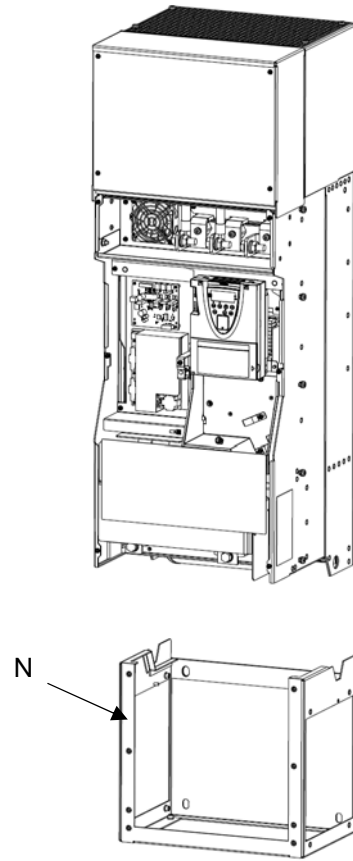

Figure 11
- Step3: Place the support frame (N) under the inverter and align it with inverter's chassis. See figure 11.